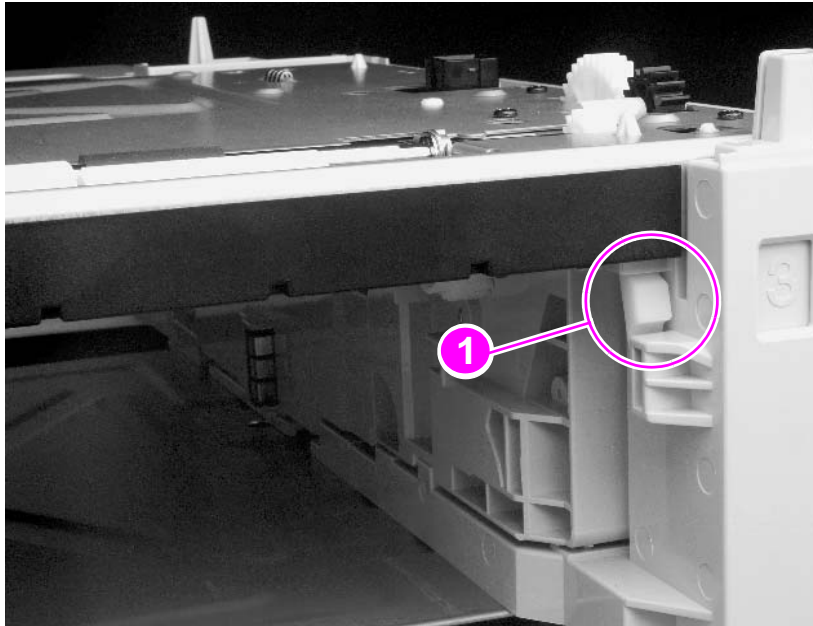

Figure 88. Detail of clutch release
- 12 Ensure the clutch release (figure 88) functions properly after the paper-feeder plate is reinstalled.